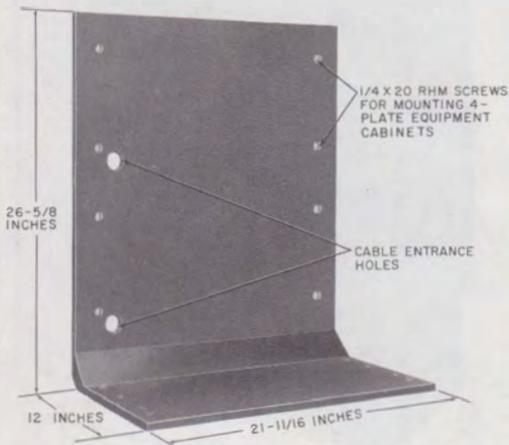

Fig. 32—Floor Stand Per ED-91296-70
5.01 The floor stand per ED-91296-70+ (Fig. 32) is a metal stand for mounting two 4-plate apparatus cabinets, one over the other.